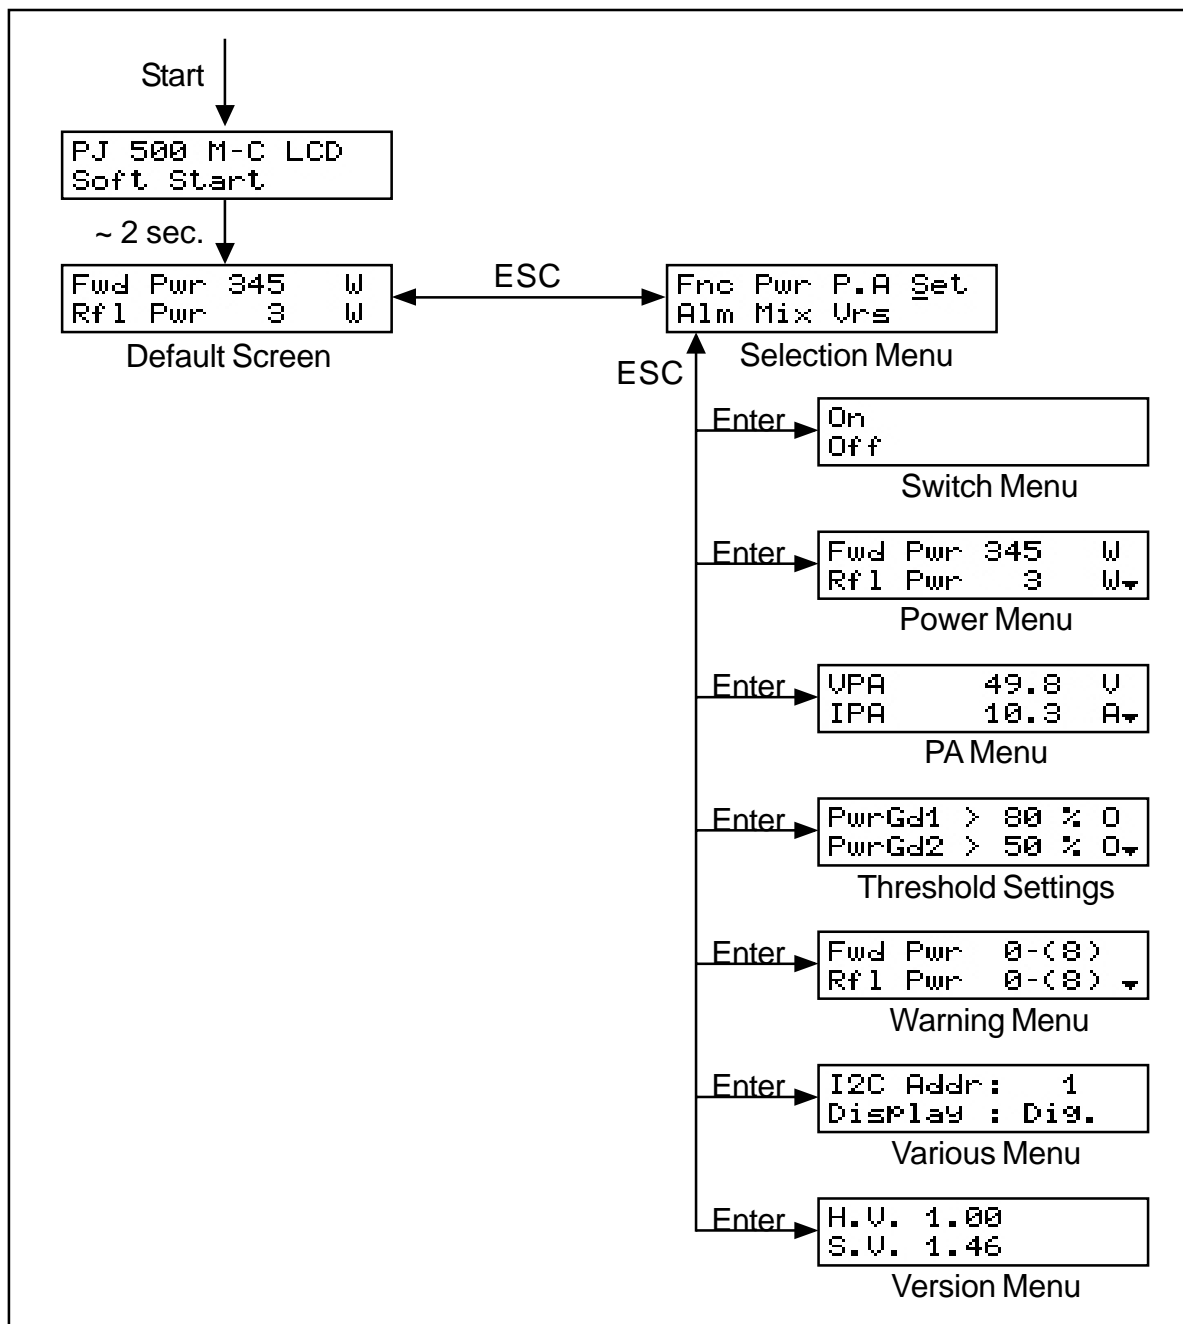

Figure 3 - Software flow diagram
- Check carotid pulse (**Figure 3**); if pulse is absent, begin artificial circulation (**Figure 4**) depressing sternum 1 1/2" TO 2" (**Figure 5**).
The flow diagram in figure 3 gives an overall view of the use interface of the software.